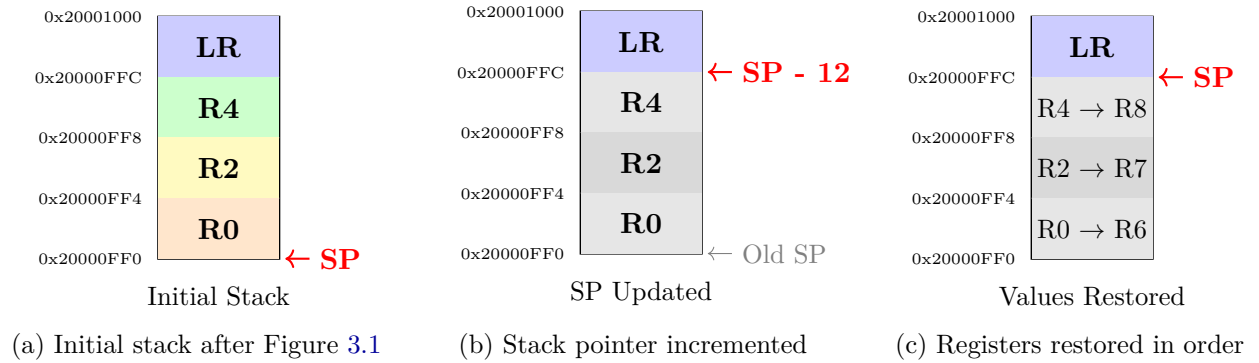

Figure 3.2: Stack operation sequence for `POP {R6-R8}`
**Explanation:** In Figure 3.2(a), the stack contains values saved earlier. Executing `POP {R6-R8}` **reclaims 12 bytes of stack space** (three registers) by moving SP upward in memory (Figure 3.2(b)). Then, as shown in Figure 3.2(c), registers are restored following the rule: the lowest-numbered register (R6) comes from the lowest address, followed by R7 and R8 from higher addresses. After the last load, SP points to the top of the reclaimed block, completing the reversal of the earlier push.